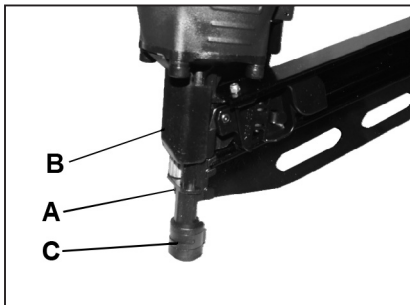

Figure 5
The depth to which a fastener is driven is controlled by the depth adjustment (A) Fig. 5. The depth of drive is adjusted to a maximum setting by factory. Loosen screw (B) Fig. 5, slide adjustment to desired position and retighten locking screw (sliding the safe bracket (A) Fig. 5 upward increases the depth of drive, sliding the safe bracket (A) down decreases the depth of drive). Fire another fastener and check depth. REPEAT AS NECESSARY TO ACHIEVE DESIRED RESULTS. The amount of air pressure required will vary depending on the size of the setting to determine the lowest setting that will consistently perform the job at hand. Air pressure in excess of that required can cause premature wear and/or damage to the tool.